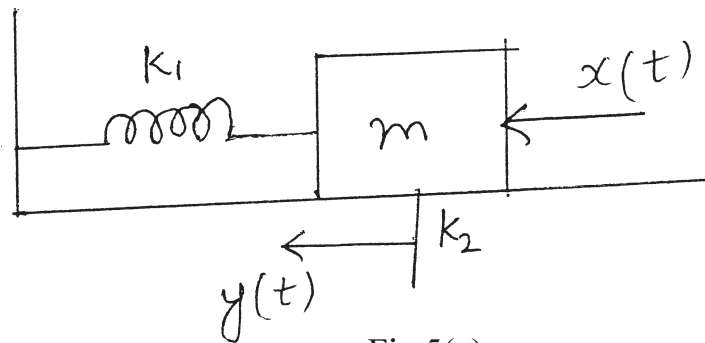

Fig 5(a)
- Q5) a)** Consider a mechanical system shown in the figure 5(a). It consists of a block of mass m connected to a wall by a spring. Let k_1 be the spring constant and k_2 be the viscous friction coefficient. Let the output $y(t)$ be the displacement of the block and the input $x(t)$ be the applied force. Find a state space representation of the system. [8]